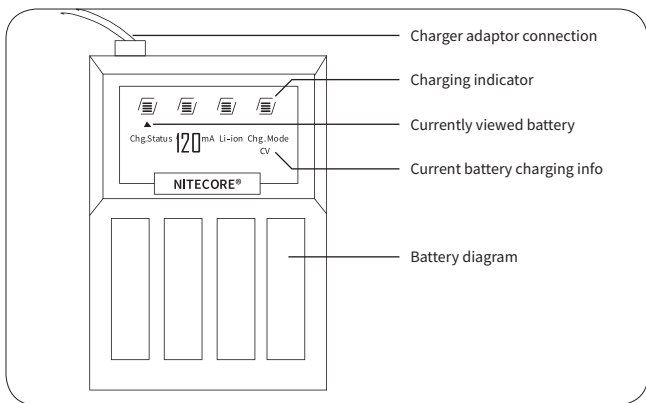

Fig. 12. Charging status
- (1) Take out the backup battery in the packaging box and put it in the charger as shown in Fig. 12. The charging status and other information of the battery being charged will be shown on the screen above the charging base. Pressing the button on the left of the charger allows you to switch among the information the batteries.